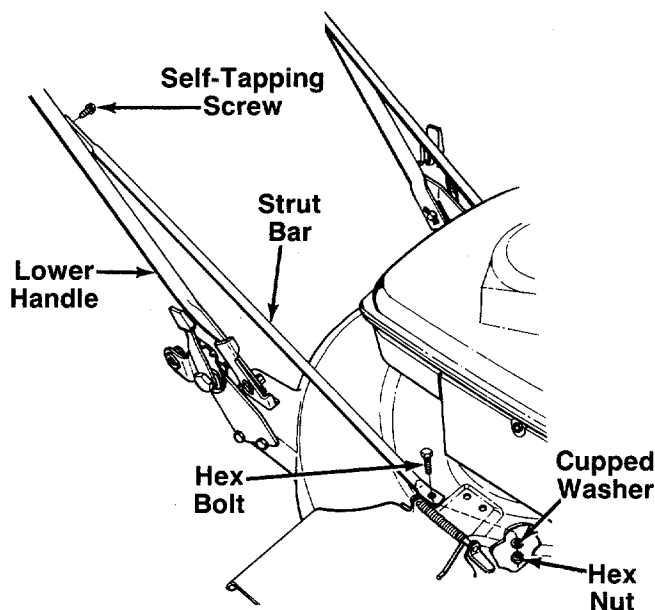

FIGURE 3.
1. Attach the strut bars to the deck with hex bolts, cupped washers and hex nuts as shown in figure 3. Place the cupped side of washer against deck. Do not tighten.
2. Place the strut bars against the inside of the lower handle. Secure using the self-tapping screws. See figure 3. Tighten securely. Tighten hardware on lower end of strut bars securely.